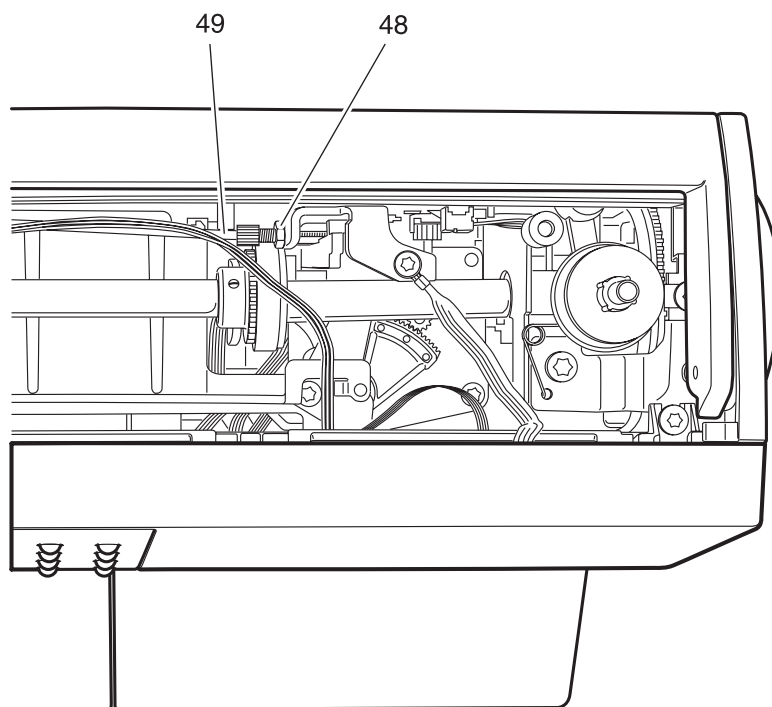

Fig. 23
- Loosen counter nut 48 with a 7 mm fork wrench (fig. 23).